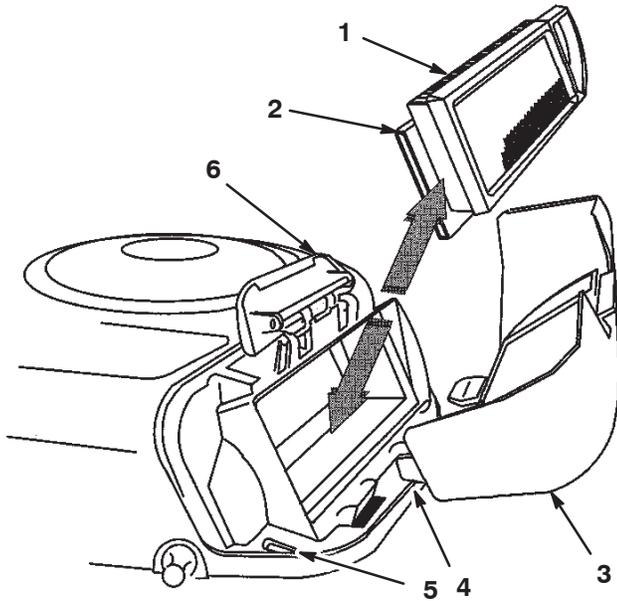

Figure 22
- 4. Carefully slide the paper element and foam element from the blower housing (Fig. 22).
2. Align the tabs on the air cleaner cover with the slots of the blower housing (Fig. 22). Hook the handle onto the cover and press down on the handle to lock the cover in place.